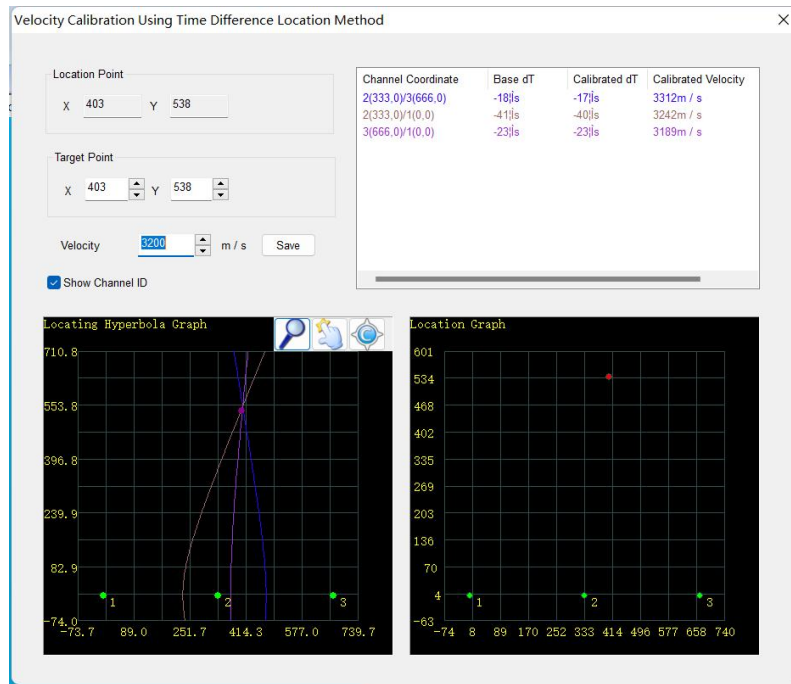

Fig. 6-65 Planar Location Graph Point Calibration
**Calibrate with the Point Selected:** when there is any point selected by the red circle, select this option to open the calibration window as Figure 6-65. The selected point location is calculated in the software and it should be same coordinates as the actual source position. If they are different, by adjusting the X or Y coordinates of the point as well as the sound velocity to make it closer to the actual source location coordinates.